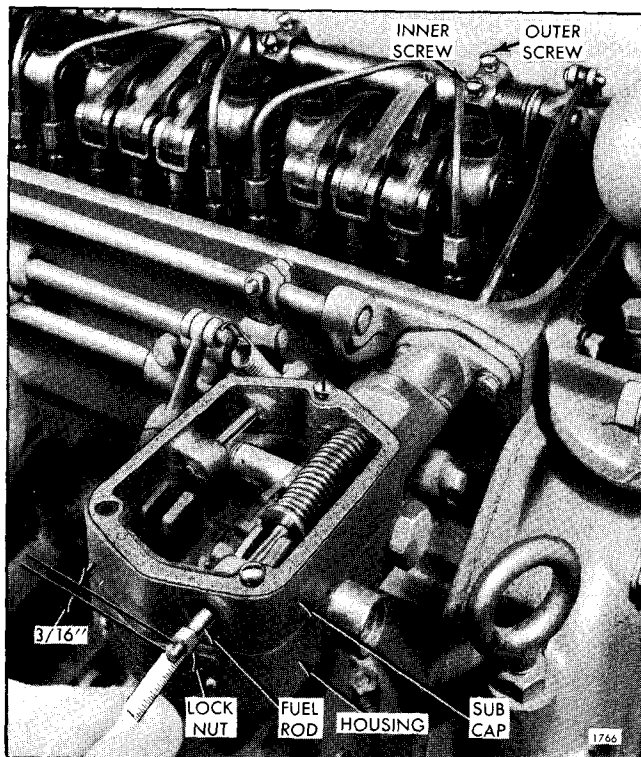

Fig. 1 - Adjusting Fuel Rod
1. Remove the governor cover. Refer to Fig. 1 and loosen all of the injector rack control lever adjusting screws and locknuts. Be sure all of the control levers are free on the injector control tube.